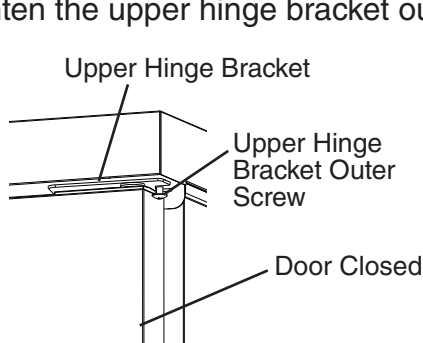
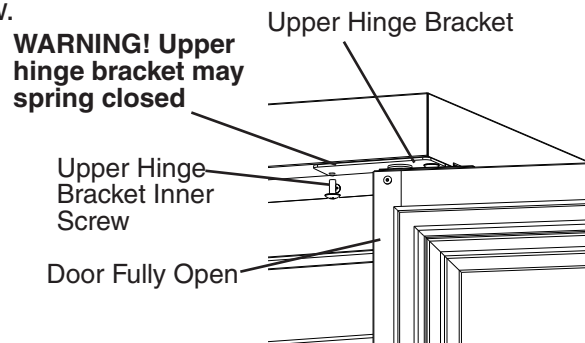

Fig. 25
Fig. 26
10) With the door closed, loosen, but do not remove, the upper hinge bracket outer screw. See Fig. 25. Next, open the door to the fully open position and remove the upper hinge bracket inner screw. See Fig. 26.